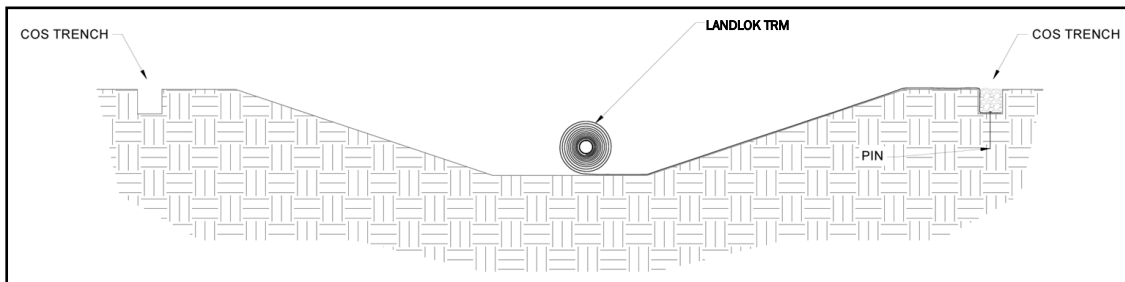

Figure 11: Perpendicular Placement of LANDLOK across Channel
6. Unroll the LANDLOK roll on the channel surface in the area to be armored. (Figure 11) Ensure that LANDLOK has intimate contact with the ground and all irregular surfaces beneath LANDLOK are removed.